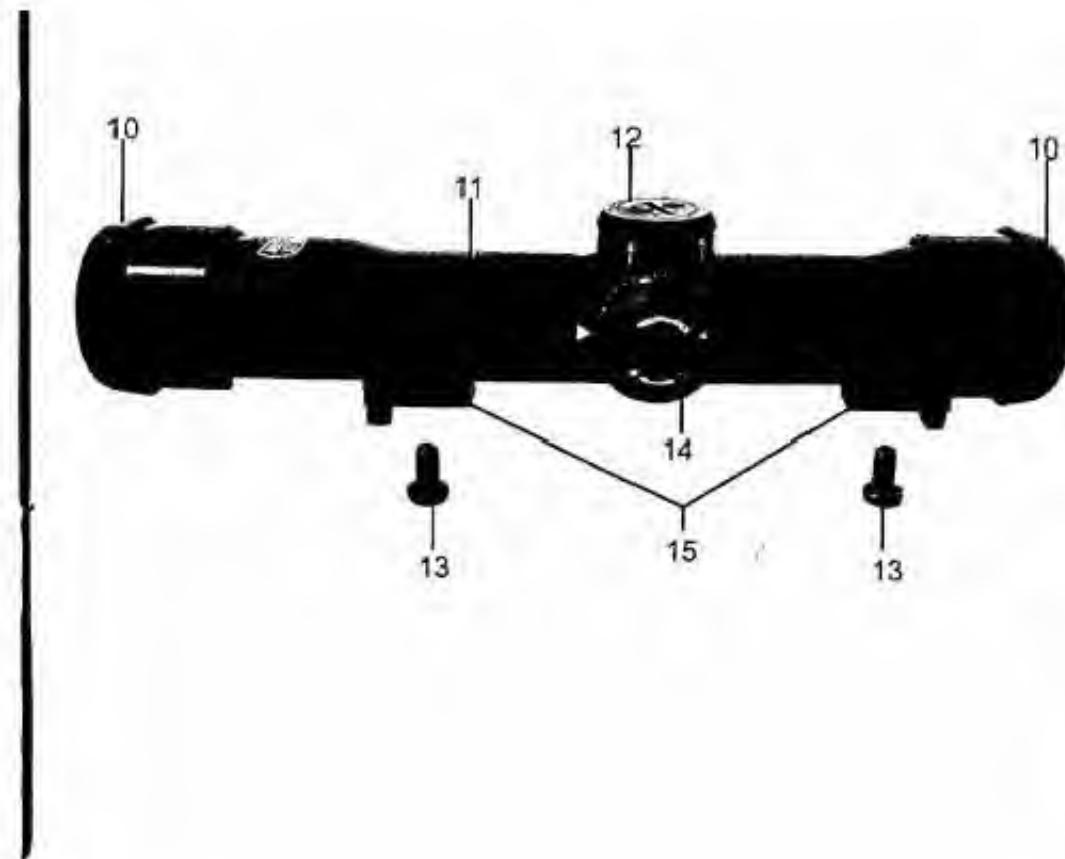

Fig. 4 Reticle pattern
- 2.2.1 The reticle is designed according to Fig. 4. The reticle pattern consists of the sighting thorn with side scale per FINABEL.